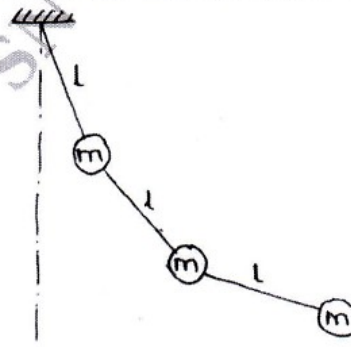

Fig. Q9 (b)
b. Determine the influence coefficients of the triple pendulum shown in Fig. Q9 (b). (12 Marks)